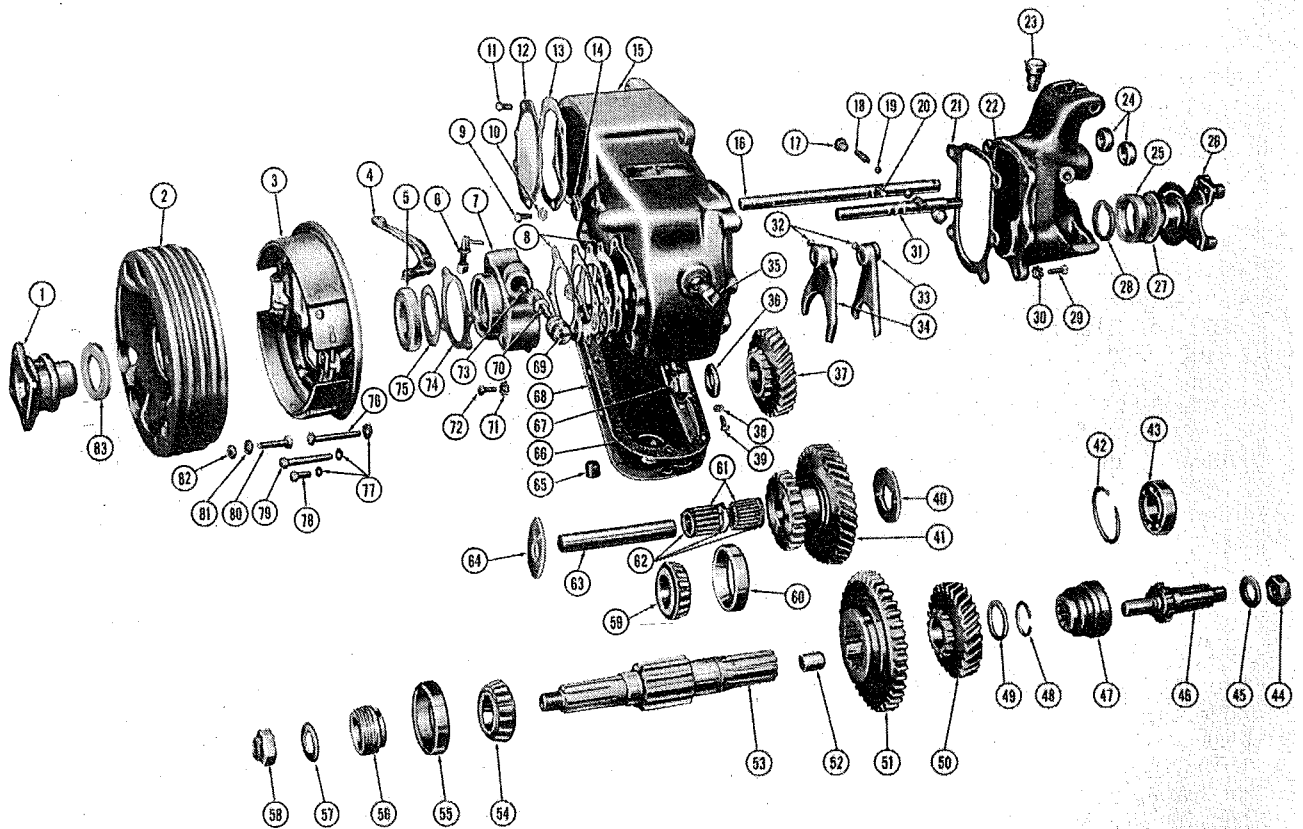
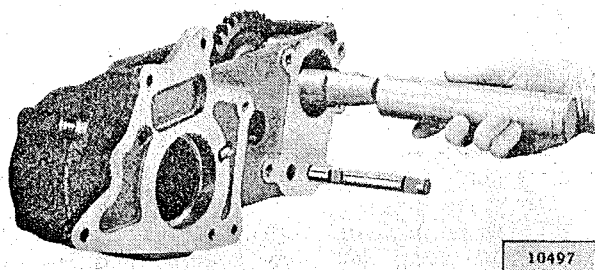

FIG. 114—TRANSFER CASE
FIG. 119—OUTPUT SHAFT SNAP RING INSTALLER
Numbers in parentheses refer to items in Fig. 114. To remove the gears and bearings from the transfer case on the bench, the following procedure is recommended:
Numbers in parentheses refer to Fig. 114. The front bearing cap is a separate assembly which may be removed for service. Should difficulty be experienced in this section of the transfer case, follow the sequence below for removal and disassembly:
Numbers in parentheses refer to Fig. 114. The rear bearing cap is partially disassembled during the dismantling of the transfer case. The cap is, however, a separate assembly which may be removed for service. Follow the sequence below for removal and disassembly:
Numbers in parentheses refer to Fig. 114. The assembly of the transfer case is the reversal of the above disassembly. The output shaft snap ring (48) is installed with Tool W-131, Output Shaft Snap Ring Installing Thimble and Driver (Fig. 119). Use a piece of tubing to install the bearing cone and roller assemblies on the output shaft to prevent damage to the assemblies.